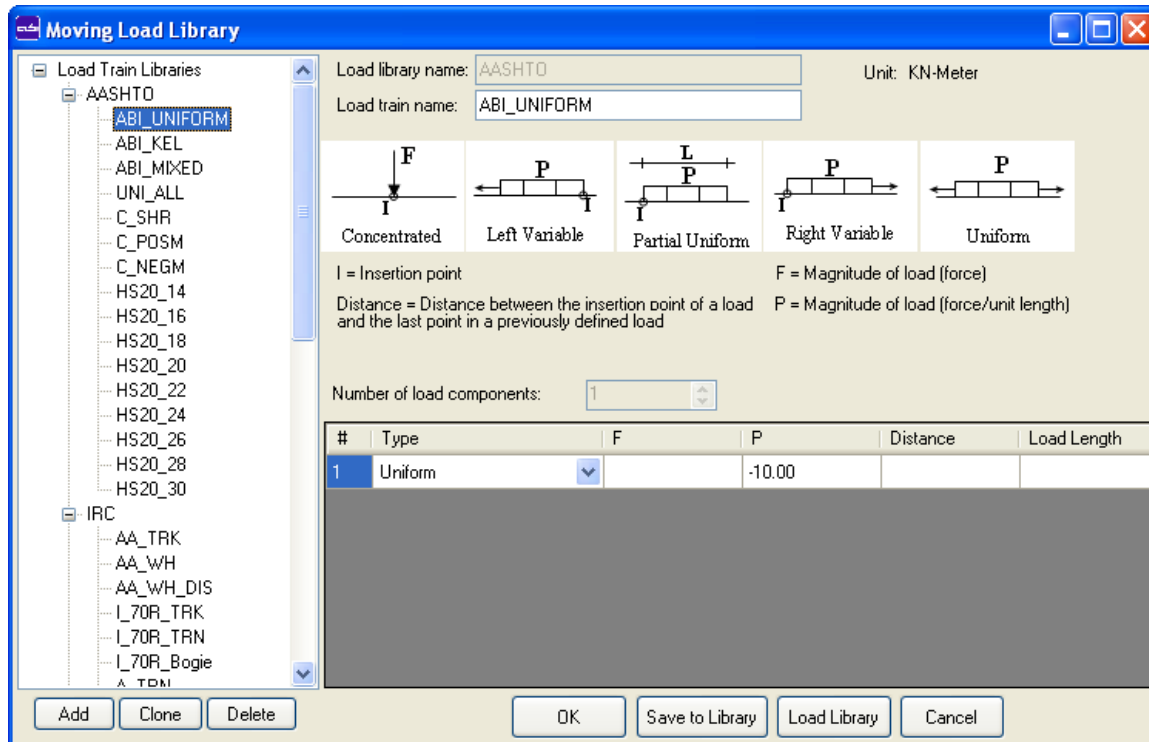

FIGURE 1.8-15 LOAD TRAIN LIBRARY DIALOG WINDOW
Moving Load Library. When you select this menu item the program opens the Load Train Library dialog window (**Fig.1.8-15**). This window contains the names and definitions of all AASHTO, IRC and BS 5400, and European Code (EC) moving load trains. Alternatively, you can create new load trains from the available load types shown in **Figure 1.8-15**.